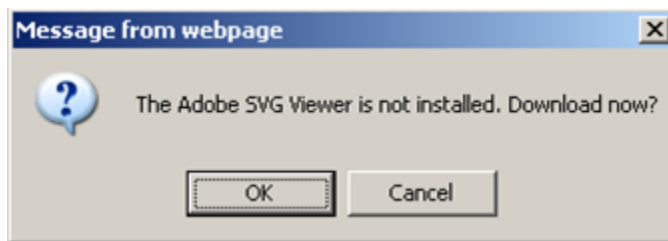

Figure 5-8: **Message from webpage** dialog box
7. If this is the first time an Ensemble production has been run on this system, the message shown in Figure 5-8 may be displayed. If this message is not displayed, skip to Step 9.